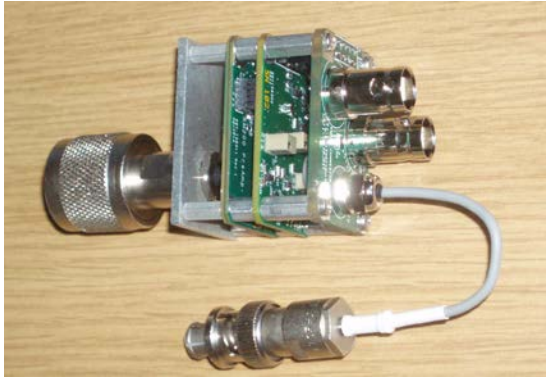
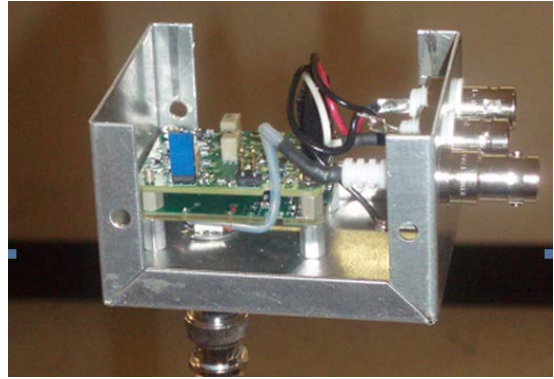

Fig 3a. KM200 Standalone configuration with connector board for direct connection to detector cables. Built-in regulator allows use of 5V to 15V power voltage
Fig 3b. KM200 Standalone configuration installed in 2.8" by 2.2" by 1.6" aluminum box. (Box lid removed).
The installation options are shown in Fig 3a and b. HN or SHV connectors could be used in both options which would extend the installation flexibility.
- KM200 Standalone stack for tube mounting as shown in Fig. 3a: 1.6" long by 1.2" wide by 1.4" high.
- KM200 standalone options as shown on Fig 3a and Fig 3b: HN or SHV connector mounter on the metal plate
- BNC and SHV output connectors for configurations are shown in Fig.3a and Fig. 4.